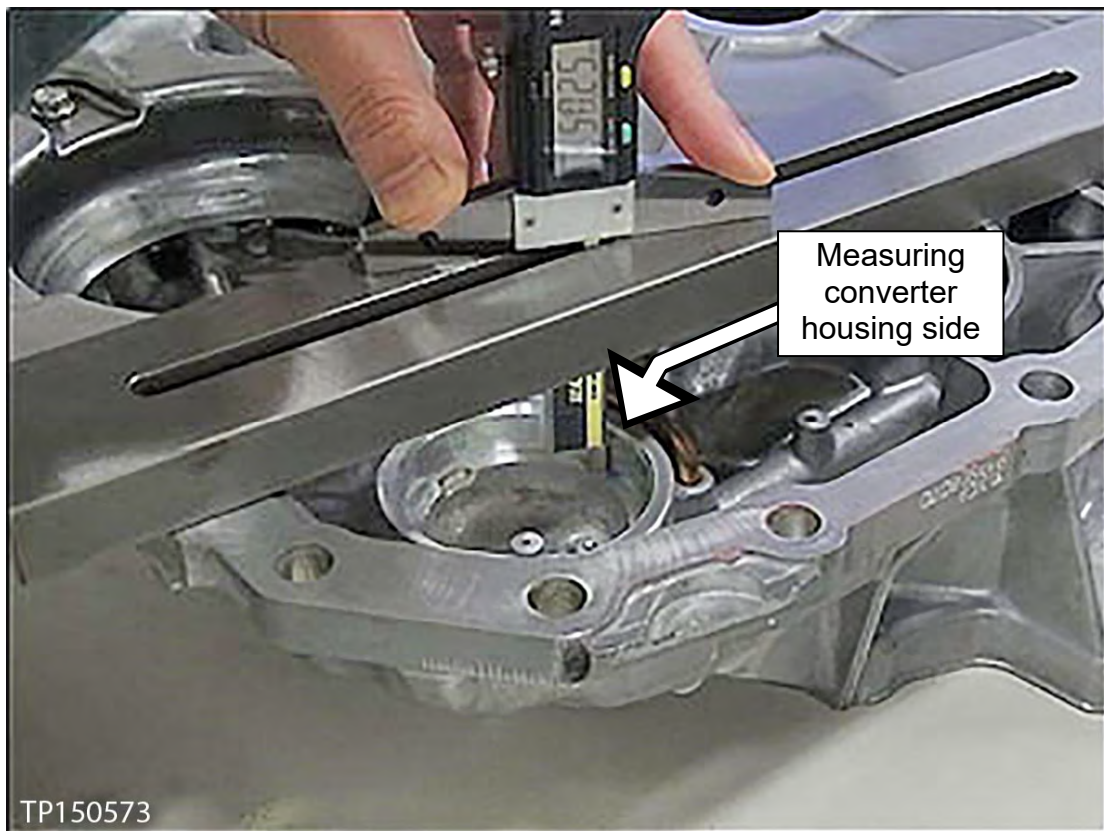

Figure 21
10. Perform steps 2-9 on the converter housing's outer race bore (see Figure 21).